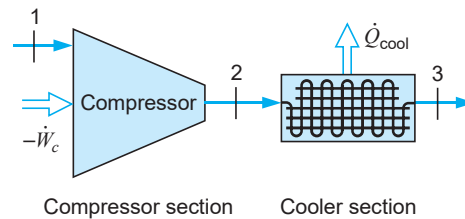

FIGURE P6.54
- 6.54** An air compressor takes in air at 100 kPa, 17°C, and delivers it at 1 MPa, 600 K to a constant-pressure cooler, which the air exits at 300 K (see Fig. P6.54). Find the specific compressor work and the specific heat transfer in the cooler.